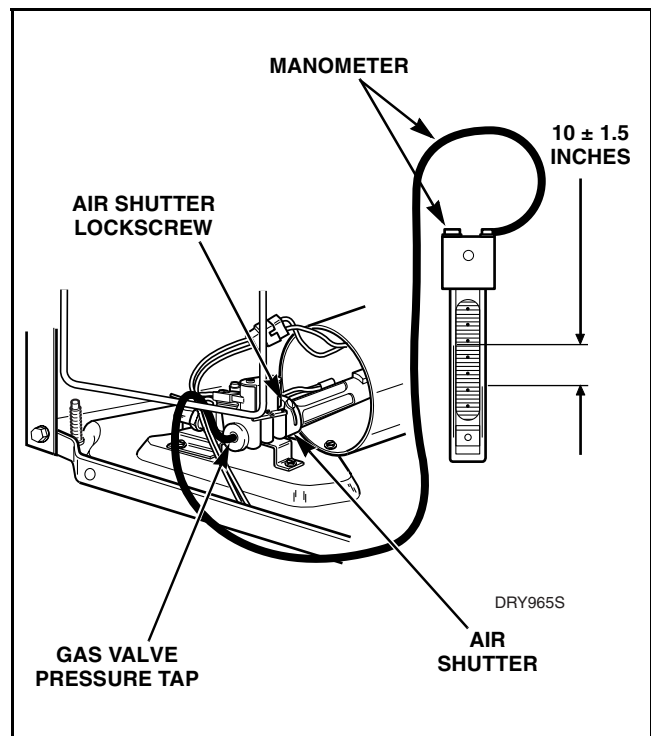

Figure 46
- (3) Start dryer, pressure should be  $10 \pm 1.5$  inches (25.4,  $\pm 3.8$  cm). Refer to *Figure 46*.
- (2) Connect a “U” tube manometer (or similar pressure gauge) to the pressure tap. Refer to *Figure 46*.
- Loosen air shutter lock screw. Refer to *Figure 46*.
- Turn air shutter to the right or left as necessary to obtain proper flame intensity. Refer to *Figure 46*.